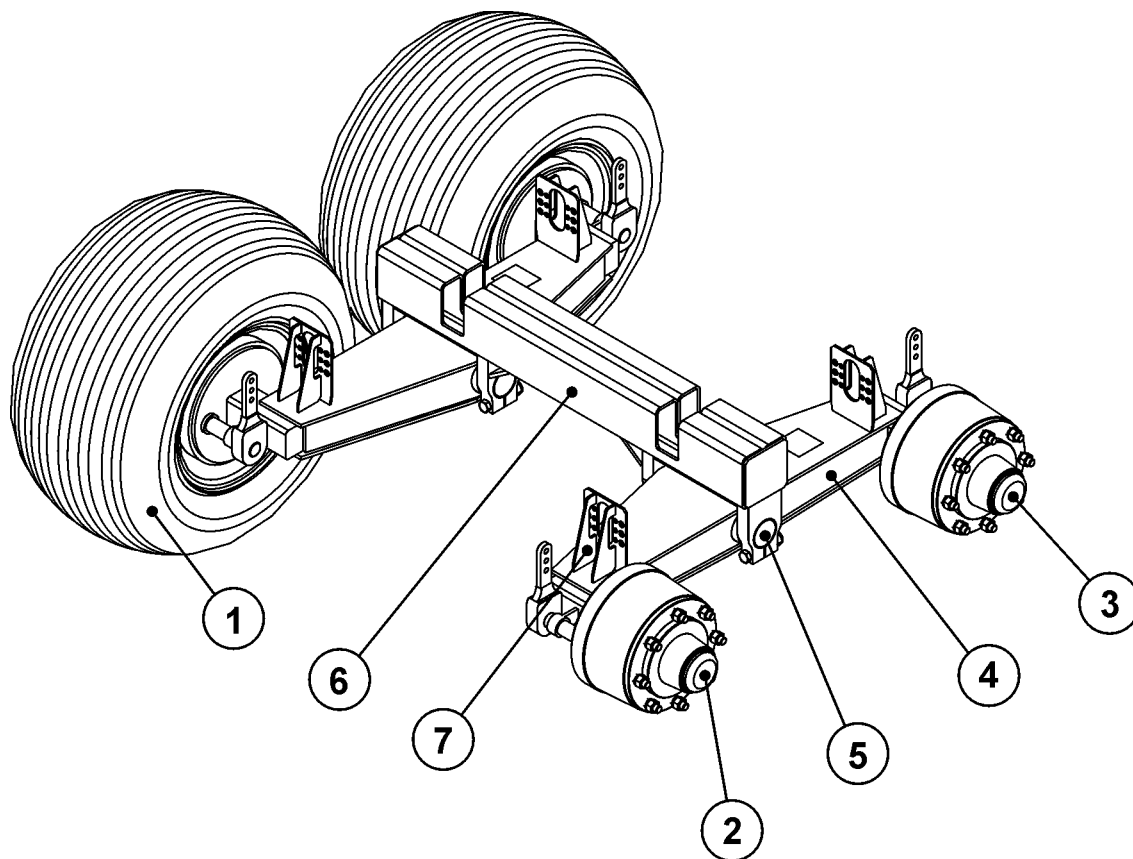

FIG. 19. DRIVING SYSTEM
The structure of the driving system is shown on the Fig. 19. The system is mounted to the rear part of the lower frame. The drive half-axle (2), (3) is made of a square rod with pivots on either end; on pivots mounted are conical bearings and on bearings – wheel hubs. The wheels are of single type, fitted with shoe brakes actuated with mechanical brake cams.